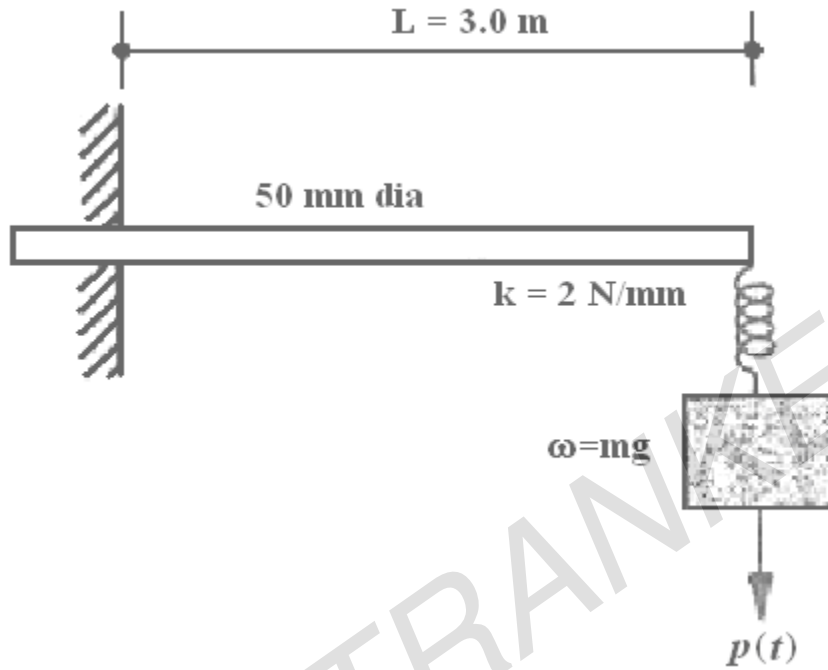

Figure 8:
2. Derive the equation of motion of the weight w suspended from a spring at the free end of a cantilever steel beam shown in figure 8. For steel, $E = 2 \times 10^5$ MPa Neglect the mass of the beam and spring. [16]